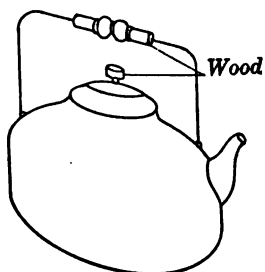

FIGURE 23.—WOOD HANDLES ON A TEA-KETTLE.
49. Non-conducting Handles for Cooking Utensils. — Figures 23, 24, 25, and 26 show different methods used to keep the handles of cooking utensils cool. The teakettle is made of metal, all except the handle, and that is made